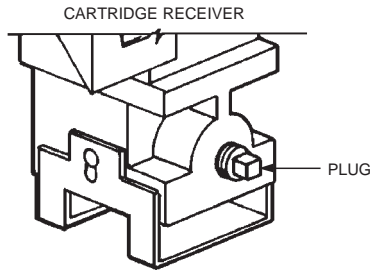

FIGURE 5-42
3. Remove plug from cartridge receiver. See Figure 5-42.